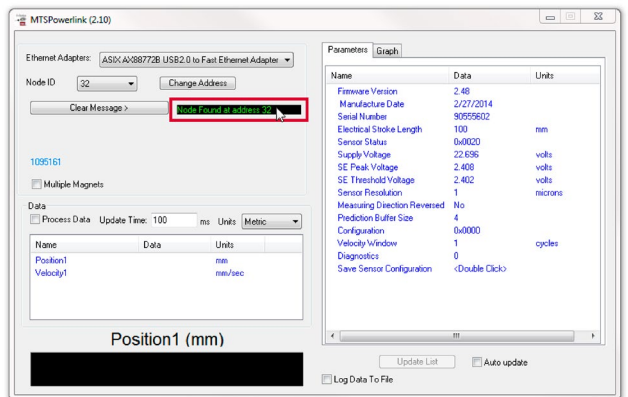

Fig. 53: Node ID found
3. The current node ID is displayed (Fig. 53).